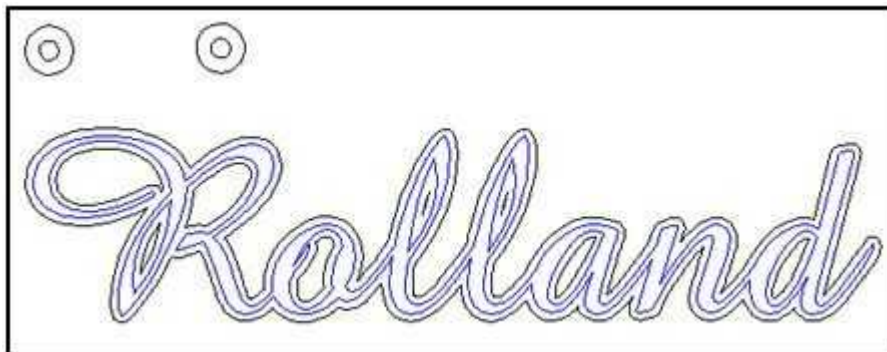

Figure 6
- 10 As the circles are going to be used to attach a chain you will need to duplicate them. Select the circles, select the "Edit Menu", "Duplicate Single" in the dialogue box put in a small offset i.e. about 20mm, this will stop the duplicated circles being directly over each other, see Figure 5. You should now have a drawing similar to Figure 6.